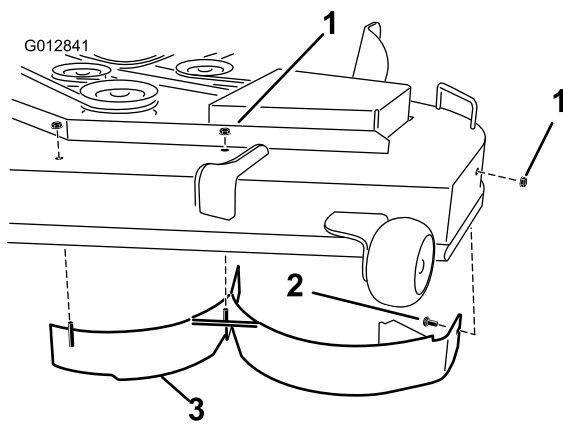

Figure 4
12. Install the left baffle to the mower deck as shown in Figure 4. Use two lock nuts (5/16 inch) to secure the welded posts of the left baffle to the top of the mower deck at the center and left positions. Hand tighten the fasteners.